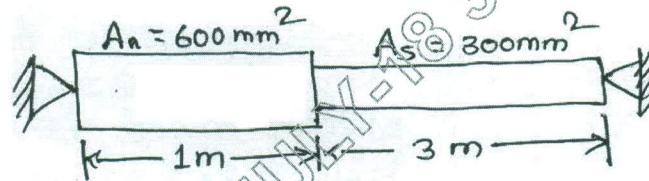

Fig. Q2 (c)
- c. A composite bar is rigidly fitted at the supports A and B as shown in Fig. Q2 (c). Determine the reactions at supports when temperature rises by  $20^\circ\text{C}$ . Take  $E_a = 70 \text{ GN/m}^2$ ,  $E_s = 200 \text{ GN/m}^2$ ,  $\alpha_a = 11 \times 10^{-6} / ^\circ\text{C}$ ,  $\alpha_s = 12 \times 10^{-6} / ^\circ\text{C}$ . (10 Marks)